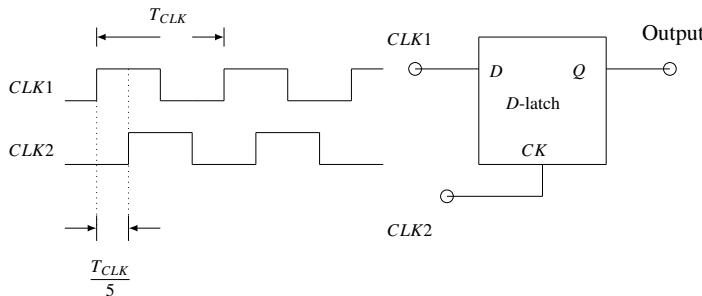

Fig. 5.15
15. Consider the D -Latch shown in Fig. 5.15, which is transparent when its clock input CK is high and has zero propagation delay. In the figure, the clock signal $CLK1$ has 50% duty cycle and $CLK2$ is a one fifth period delayed version of $CLK1$. The duty cycle at the output of the latch in percentage is _____. (GATE-EC2017)